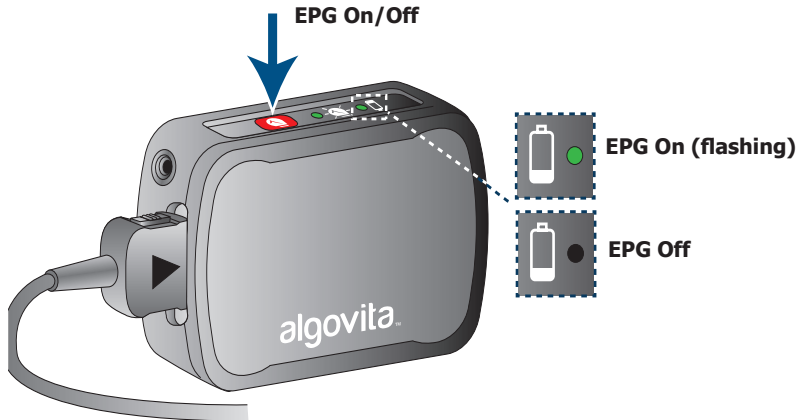

Figure 3. Turning the EPG on or off
Before turning stimulation on, the EPG must be on (*Figure 3*).
- Press the **EPG On/Off** button (*Figure 3*) and hold for approximately 5 seconds. After a short delay, the EPG turns on, and the EPG Battery Status light flashes green. When the EPG turns on, stimulation is off.
- Press the **EPG On/Off** button (*Figure 3*) and hold for approximately 5 seconds. The EPG Battery Status light turns off.